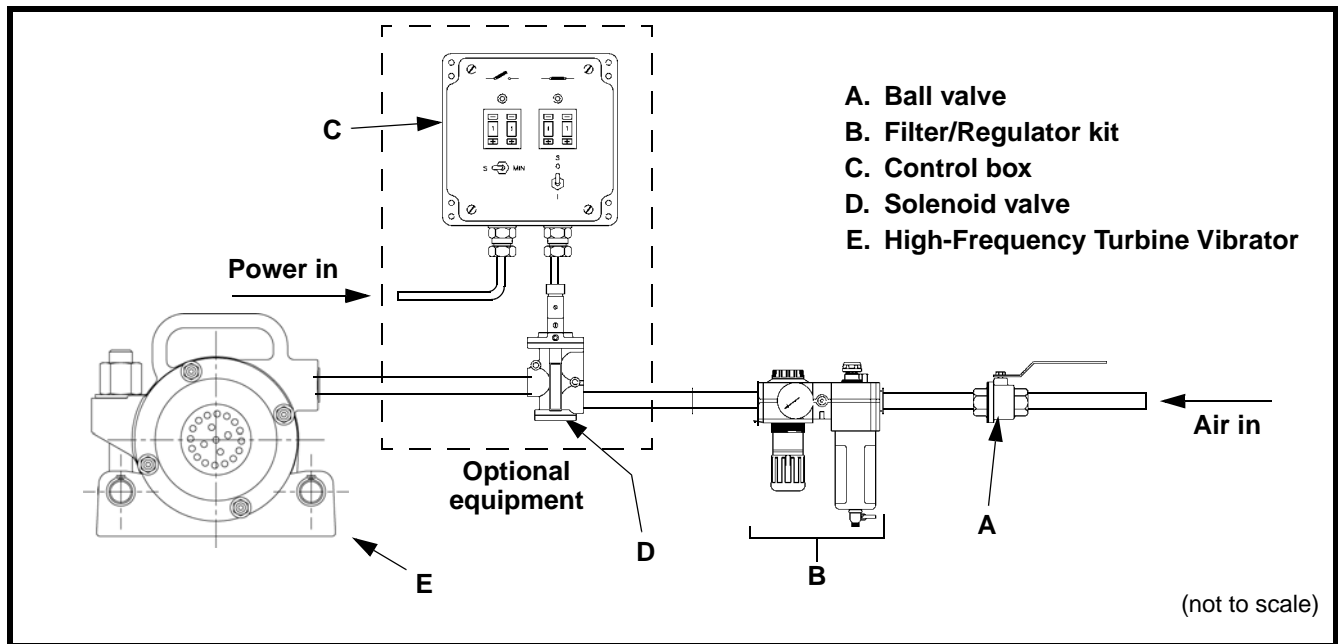

Figure 2. Connecting Air Lines to Vibrator
- a. See figure 2. Connect air line to ball valve (A) and Filter/Regulator Kit (B). Need clean/dry air and pressure regulation.